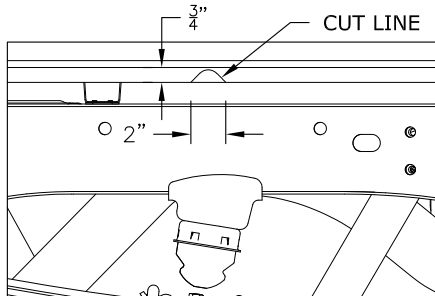

Figure A4: V-Shaped notch
9. **Modify bed flange.** Cut a notch in the bed flange just above the frame in the passenger side rear wheel well, as shown in Figure A4. This notch is required for installing the hitch cross members.